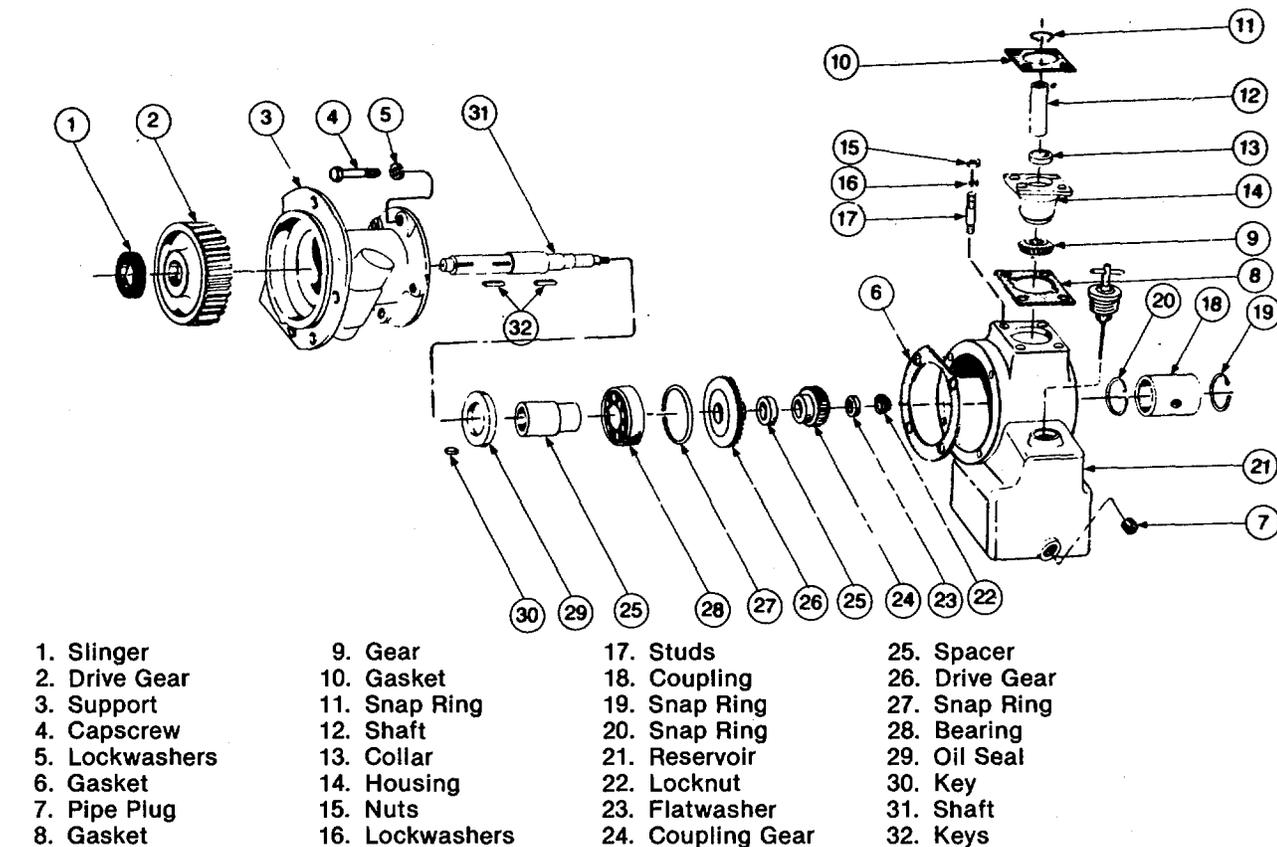

Fig. 9-3 (N10912). Fuel Pump, Hydraulic Governor Drive (Woodward Governor).
1. Remove the governor drive assembly, snap ring (11, Fig. 9-3), ball key and collar (13).
2. Press the shaft (12) opposite gear end to remove
3. all units from housing (14), separate drive gear (2) and support assembly from reservoir (21); then remove drain plug, dipstick, vent plug and elbow.
1. Lubricate outside of oil seal (29, Fig. 9-3) and press into support from large end. Open end of seal must be down. Lubricate rear bearing (28) and press into support. Insert snap ring (27), flat side down.
2. Lubricate shaft (31) and place key (32) in shaft. Press shaft into flat side of gear (2) until shoulder seats on gear face.
3. Press small end of shaft assembly into large end of support. Press governor drive gear (26) onto shaft until it bottoms on bearing.
4. Insert key (30) and press on coupling (24). Shoulder of coupling goes against gear unless a spacer (25) is used. Install flatwasher (23) and shaft locknut (22).
5. Position reservoir (21) in vise with governor drive studs (17) up. Install dipstick, vent plug, weatherhead fitting and drain plug.
- a. Install shaft (12) in housing (14) with splined end up. Drop collar (13) into housing.
- b. Lubricate ball key and insert in drive shaft: install snap ring (11). Line up ball key with collar (13). Invert assembly and press on gear (9). Allow end clearance of 0.003 to 0.006 inch [0.08 to 0.15 mm].
- a. Press governor two-piece drive shaft (12) into washer flush with bottom side. Note relief in washer to start shaft.